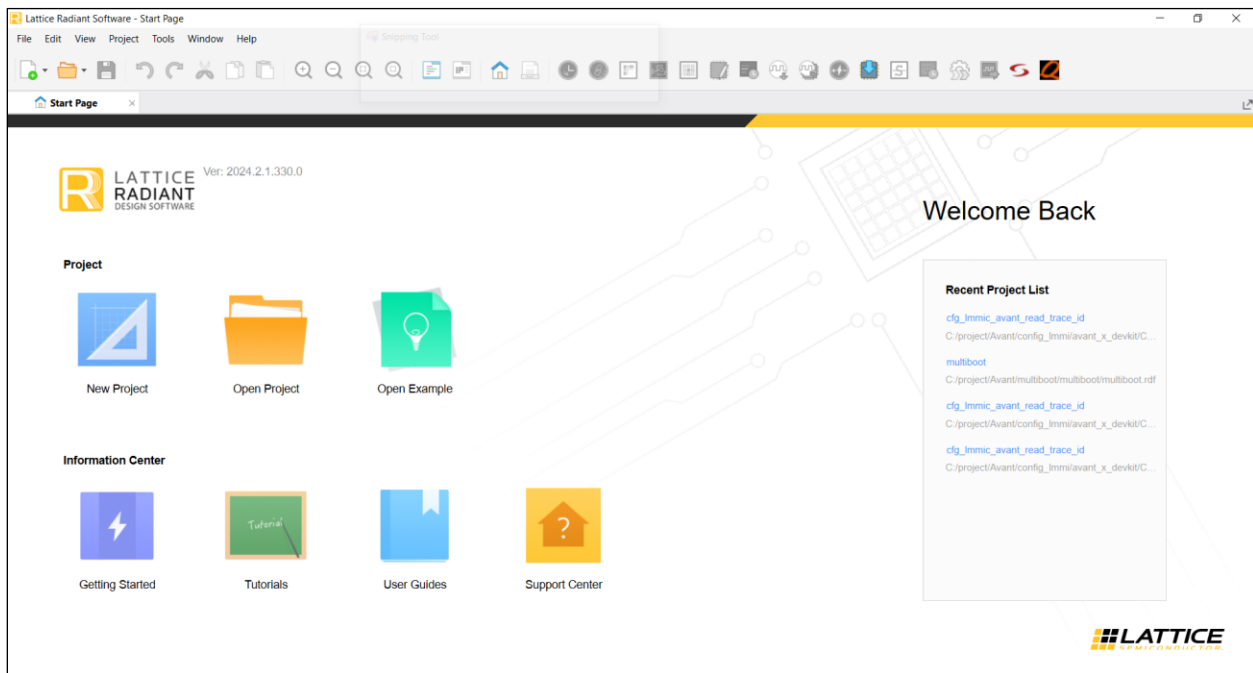

Figure 6.1. Lattice Radiant Software
1. Open the Lattice Radiant software, as shown in Figure 6.1.